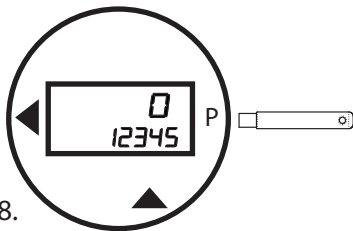

Figure 28.
- c. Pass the wand over **P**. This will end configuration mode and save your changes (Figure 28).